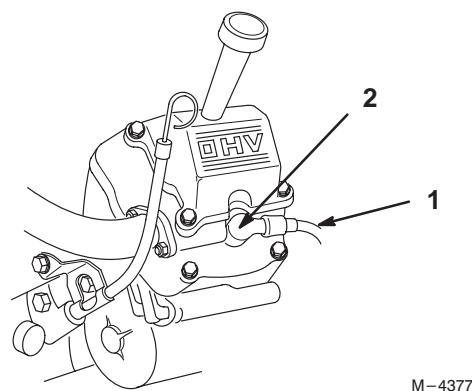

Figure 30
2. Clean around the spark plug(s) to prevent dirt from falling into the engine and potentially causing damage. Pull the wire(s) off the spark plug(s) (Fig. 30).
3. Push the wire(s) onto the spark plug(s) (Fig. 30).